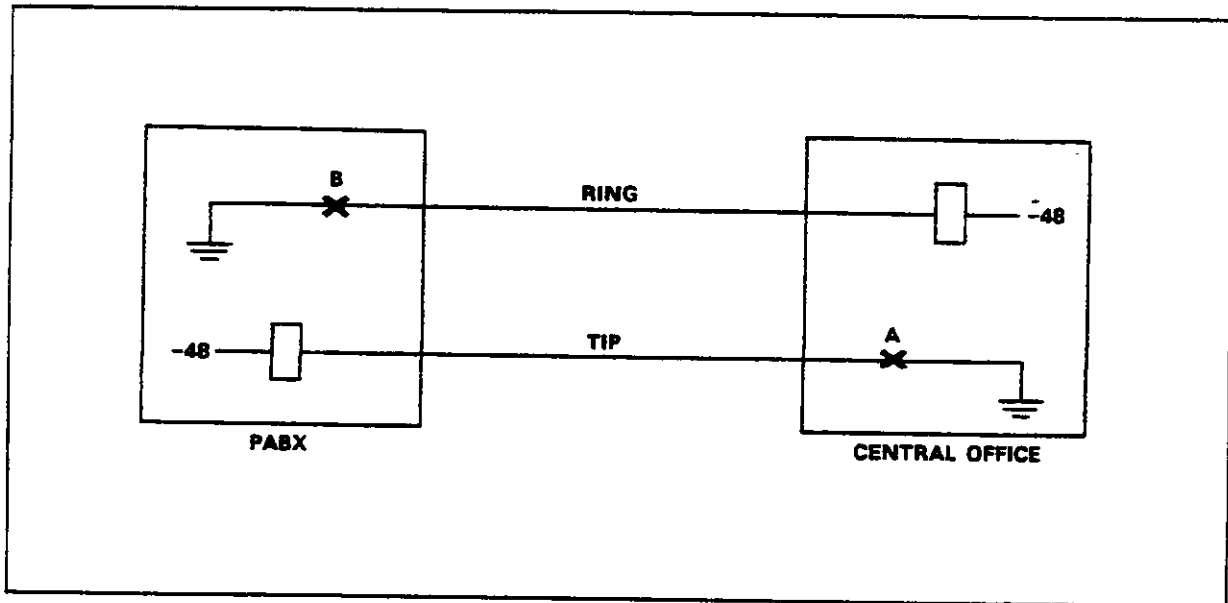

Figure 3-2 Ground Start Operation
Figure 3-2 shows a simplified ground start circuit. The CO signals a seizure by immediately making the normally opened contact "A" and grounding the Tip (T) lead. Similarly, the PABX signals a seizure by immediately making the normally opened "B" contact and grounding the Ring (R) lead. After the initial "start" signal, operation is identical to loop start.